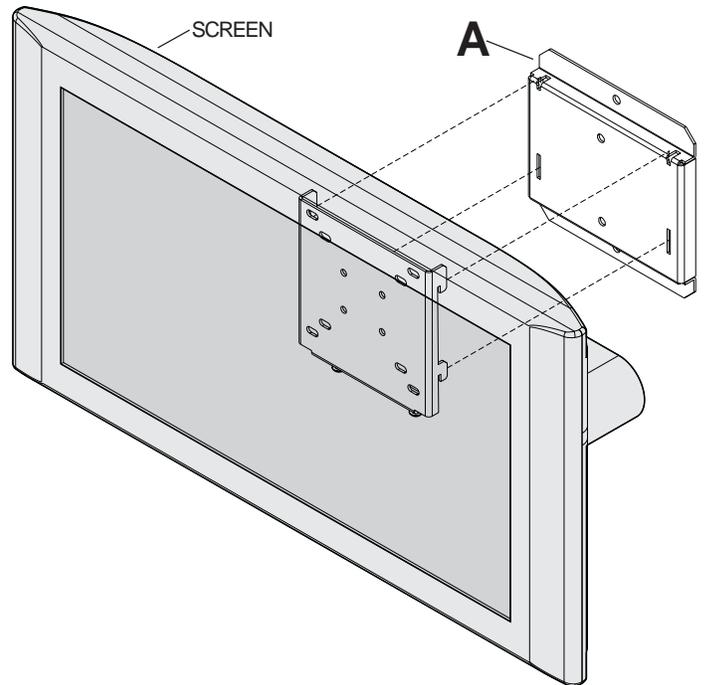

fig. 4.1
- 4** Hook screen onto wall plate (A) figure 4.1. Tighten M5 x 12 mm screws (C), shown in figure 4.2 and detail 1.
**Note:** For security models, tighten M5 x 12 mm screws (C) using 4 mm allen wrench (I)